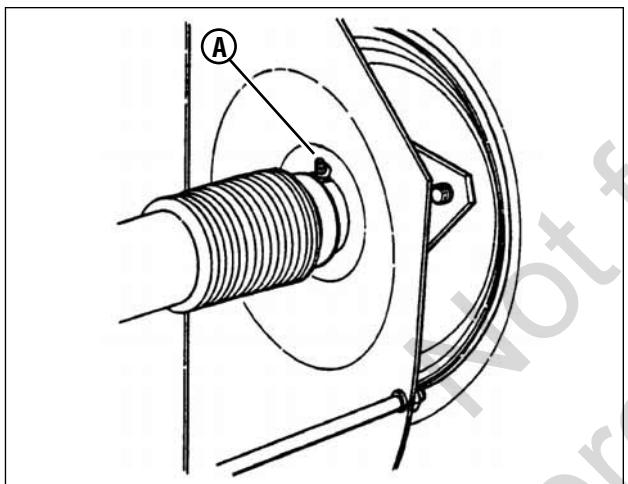

Figure 27: Rear axle grease fitting
1. The grease fitting (A, **Figure 27**) on the left rear axle bearing requires three shots of general purpose grease from grease gun.